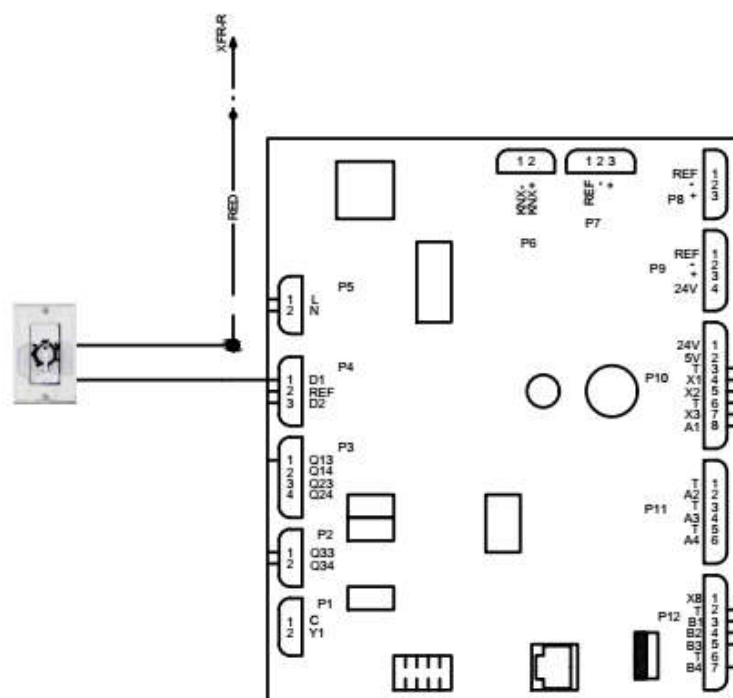

FIGURE 27 - Version 1 (Egg Timer/Analog Connection)
4. Connect the LOAD side of the timer switch to the D1 terminal wire [See **FIGURE 27 - Version 1 (Egg Timer/Analog Connection)**].